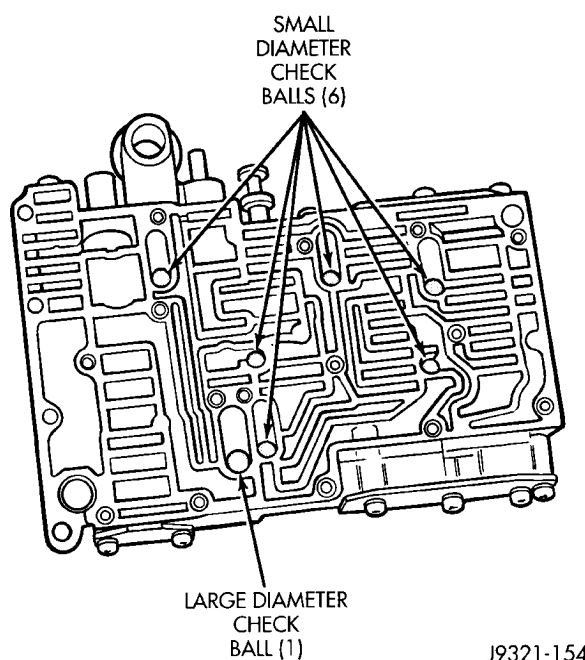

Fig. 65 Check Ball Locations In Upper Housing
(1) Note location of check balls in valve body upper housing (Fig. 65). Then remove the one large diameter and the six smaller diameter check balls.